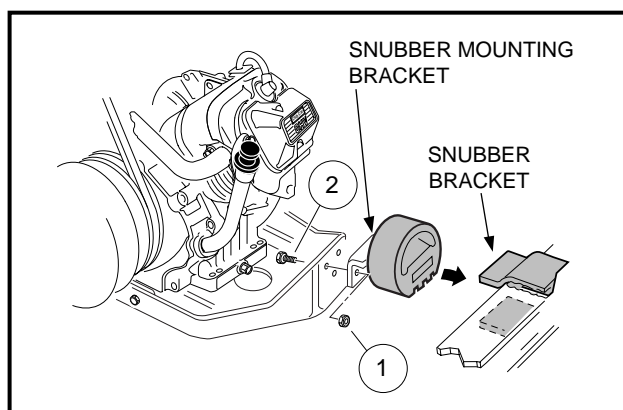

Figure 9-5 Snubber Brackets
- Working from above, remove the two bolts (2) and two locknuts (1) securing the snubber bracket to the engine mounting plate (**Figure 9-5, Page 9-5**).
- Tighten snubber bracket mounting nuts (1) to 13 ft-lb (17.6 N-m) (**Figure 9-5, Page 9-5**).